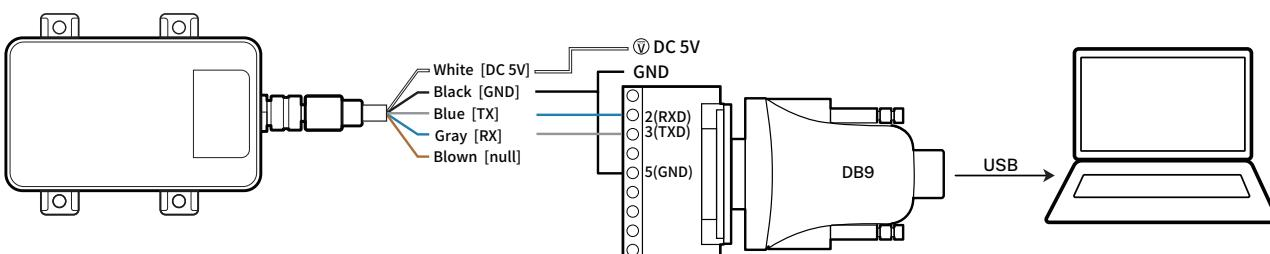

Figure 6. L4s/L4s-Filled to DB9 wiring diagram (brown wire is not connected)
1. Follow the instructions in Figure 6 to supply DC5V externally to the L4 module. Ensure that the DB9 adapter cable shares a common ground with the module.